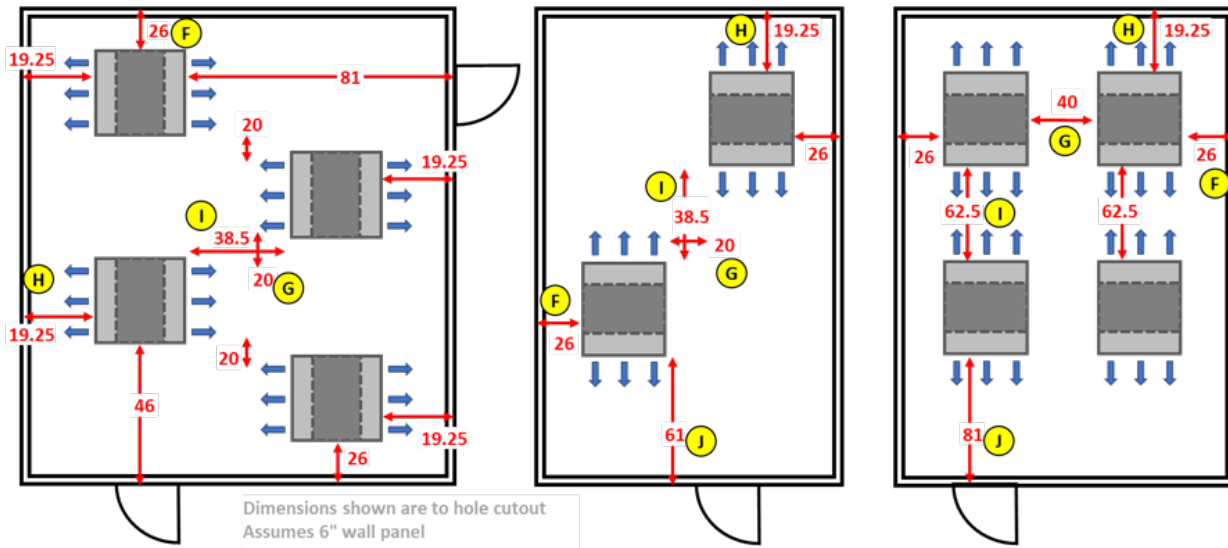

Figure 7 – Hole Cutout Spacing Dimensions
- Standard distance between the hole side and the room edge is 26". See "F" in the figure 7;
- Standard distance between the hole sides is 20" when staggered or 40" when in-line. See "G" in the figure 7.
- Minimum distance between hole side and room edge is 19.25". See "H" in Figure 7).
- Minimum distance between two holes, when in-line with the other is 62.5", and if staggered the minimum distance is 38.5". See "I" in Figure 7.
- The minimum distance between the hole side and room edge if blowing direct to a door is 81". If not blowing directly it is 61". See "J" in Figure 7.